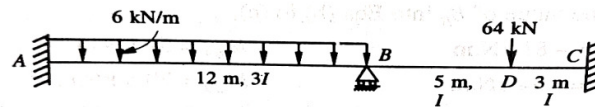

Figure 1.
3. Analyze the continuous beam shown in figure 1, by using slope deflection method for (i) unyielding supports and (ii) yielding supports which permit a downward settlement of  $48/EI$  at B. [14M]